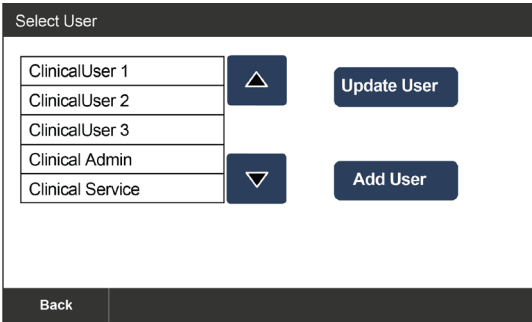

Figure 26 Select User Screen
4. Press the Add User button (maximum three users can only be added, after that warning will pop up) (see Figure 26)